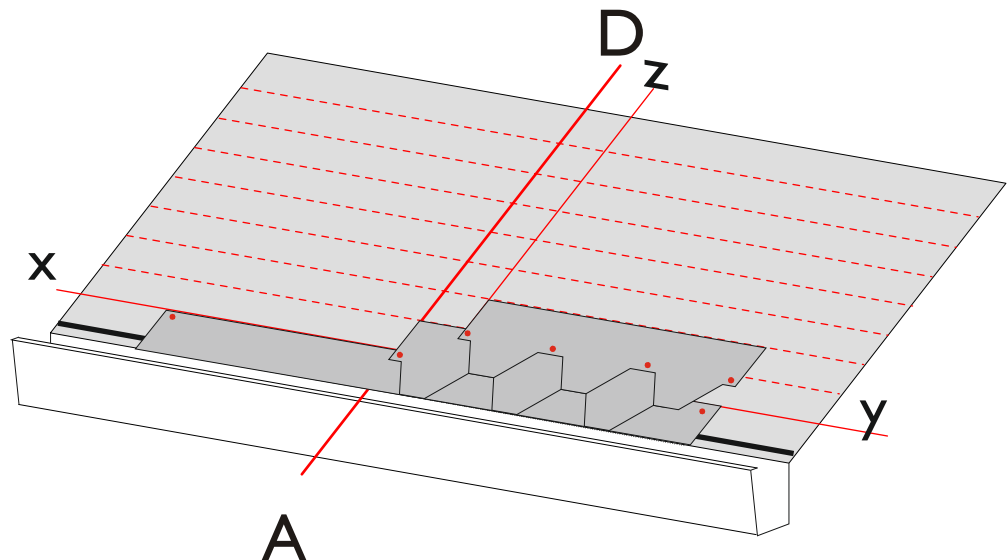

Fig. 4 - Sequence of 2 shingles
- Install the first row of shingles along the line AD (Fig. 4).
- Install the second row of shingles along the line z (Fig. 4).